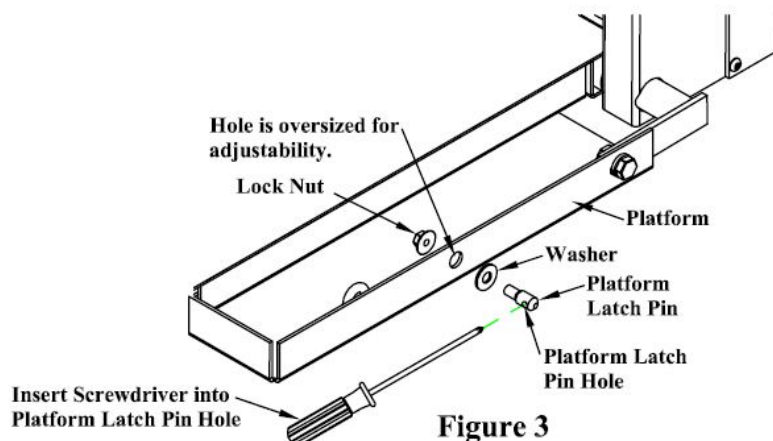

Figure 3
- 6) Loosen the platform latch pin with a 9/16" wrench and a screwdriver. The hole in the platform is oversized to allow the platform latch pin to be adjusted. See Figure 3.